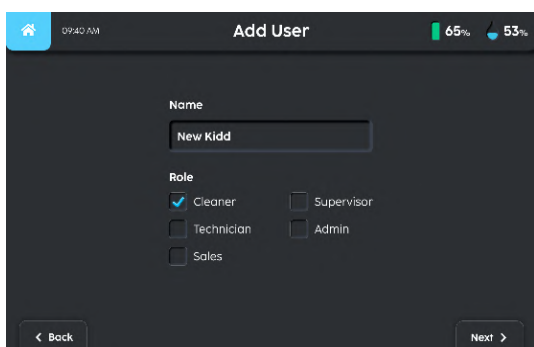

FIGURE 3-14
4. Enter the user's name and role (**Fig. 3-14**).